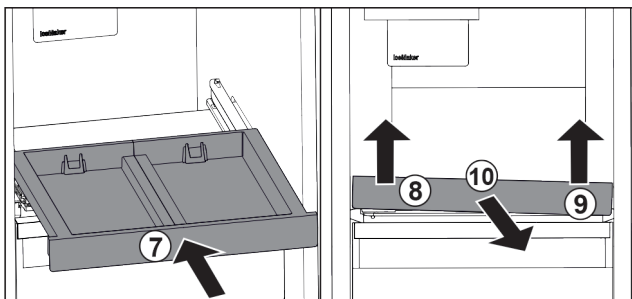

Fig. 27
- ▶ Slide in the pull-out board. *Fig. 27 (7)*
- ▶ Lift the pull-out board at the front left. *Fig. 27 (8)*
- ▶ Lift the pull-out board at the front right. *Fig. 27 (9)*
- ▶ Take out the pull-out board to the front. *Fig. 27 (10)*